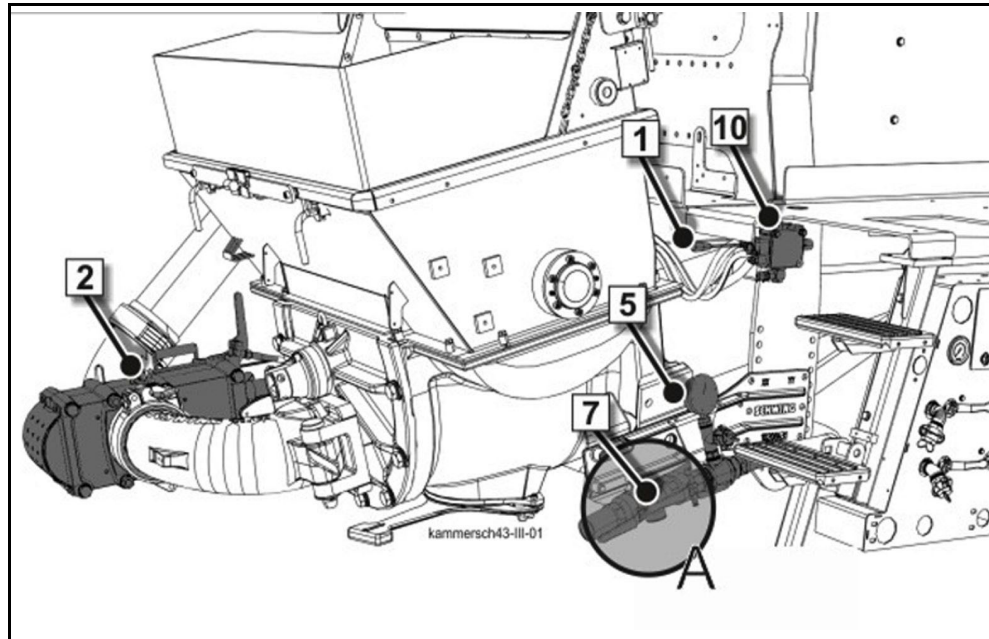
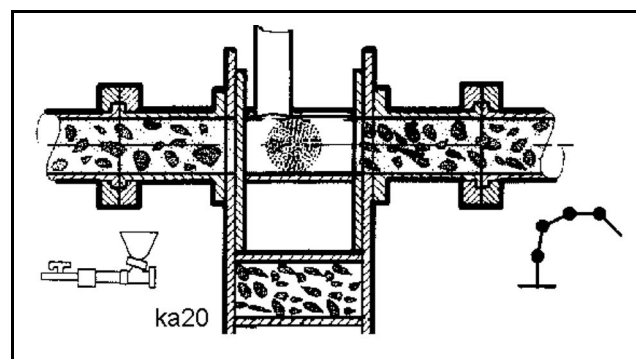

Fig. 449 Complete chamber valve
Fig. 461
- Use caution when opening the ball valve (7) (**Fig. 449**). Residual concrete can be ejected from the blow valve opening.
The chamber valve is installed in the pumping line for the boom outlet on the rear of the machine (2) (Fig. 449).
The control devices for the system are located on the rear of the machine, on the right (1) (Fig. 449).
Caption for (Fig. 449), (Fig. 450)
- Shut the ball valves for the air system (6) (**Fig. 450**) and (7) (**Fig. 449**).
<p>10214311</p>	<p>Actuate the control lever (1) (Fig. 449) until the chamber with the ball is completely inside the gate valve housing (Fig. 461). The connection between the concrete pump and boom pumping line is then interrupted. When the spring-centred control lever (1) (Fig. 449) is released, it returns to the "Neutral position".</p>
- Open the ball valves for the air system (6) (Fig. 450) (7) (Fig. 449).
<ul style="list-style-type: none"> ➤ Switch the compressor on using the switch of the active control. <p>The compressed air first escapes through the ball valve (7) (Fig. 449).</p>
- Slowly shut the ball valve (7) (Fig. 449).
- During the cleaning process, monitor the compressed-air pressure gauge continuously (5) (Fig. 449).
Immediately open the ball valve (7) (Fig. 449)!
- Completely open the ball valve (7) (Fig. 449) when the ball has come out of the pumping line.
Extend the valve chamber only while the compressor is off and the pressure gauge (5) (**Fig. 449**) displays "0 bar".
- Depressurise the pumping line by opening the discharge ball valve (7) (**Fig. 449**).